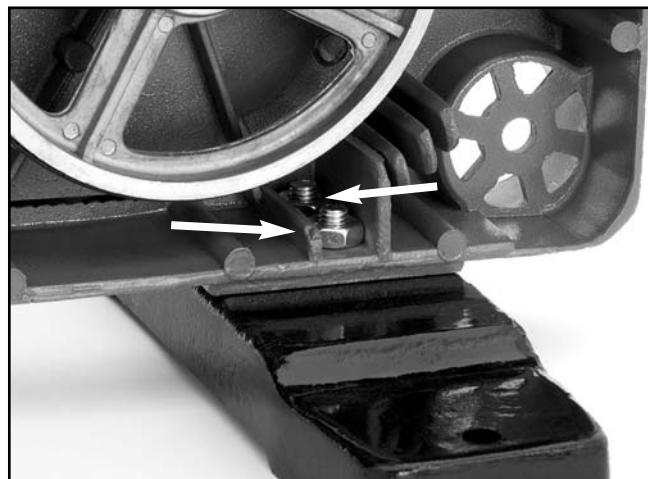

Figure 6. Base foot attached to the bandsaw.
2. Attach the base feet to the bottom of the bandsaw with the M8-1.25 x 25 hex bolts and the M8-1.25 hex nuts (Figure 6). Note—*The hex bolts extend up through the bottom of the feet, and through the bottom of the bandsaw, where they are secured with the hex nut.*